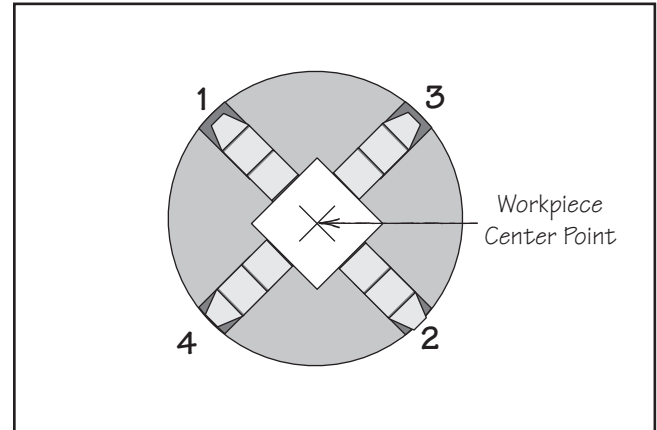

Figure 32. 4-jaw tightening sequence.
5. Tighten each jaw in small increments. After you have adjusted the first jaw, continue tightening in an opposing sequence, as shown in **Figure 32**.